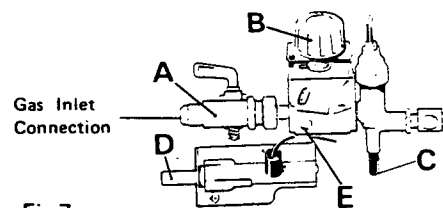

Fig.7
(a) LP Gas Operation — Lighting the Burner (See figure 7)
- (b) Before taking the vehicle on any road, turn off the gas cock (Figure 7 - A), and if required, use the 12V facility to operate the cooling unit. Whenever possible, the cabinet should be precooled, together with contents, by starting up and running the refrigerator on gas for several hours, or overnight, before switching to 12V and starting on a journey.